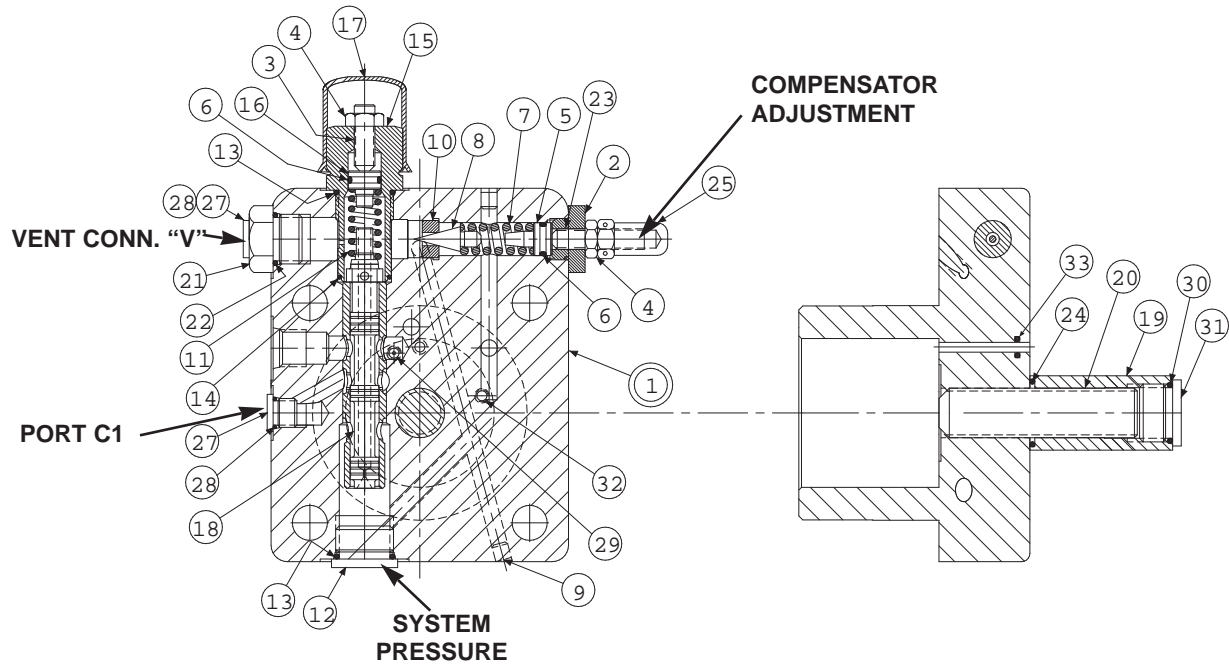
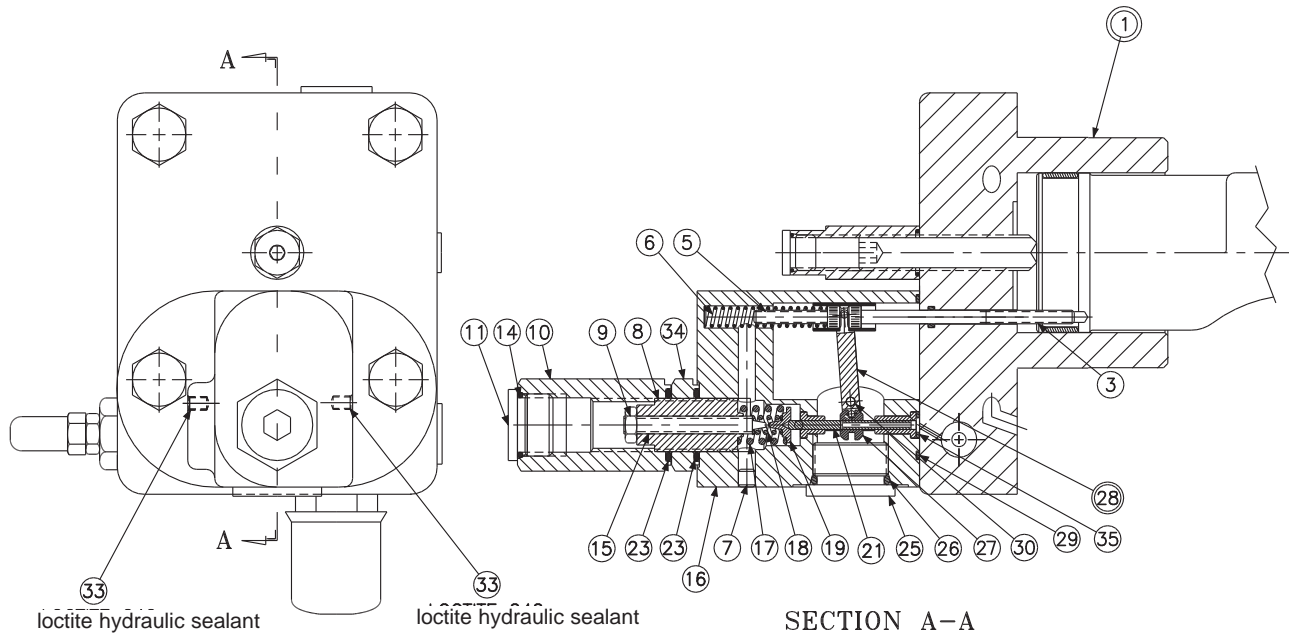

FIGURE 28
FIGURE 29
PARTS LIST FOR FIGURE 28
PARTS LIST FOR FIGURE 29
1. See figure 29. Remove 2 screws holding torque limiter body (16) to cap assembly (1).
2. Remove all parts from torque limiter body (16) except pin (30) and arm assembly (28). It is not necessary to remove these parts unless broken or worn. Examine parts for wear or damage.
3. Remove screw (3). Examine head for excessive wear, and body for smooth sealing surface with O-ring.
4. See figure 28. Remove maximum volume stop assembly (items 19, 20, 24, 30, 31).
5. Remove cap assembly (1).
6. Remove plug (15) and attached parts. Remove spring (11) and spool (18).
7. Remove adjusting plug (2) and attached parts. Remove seal piston (5). Note: a 10-24 screw may be attached to assist in pulling the piston. Remove spring (7) and cone (8).
8. Do not remove sleeve in body (1). Sleeve is pressed into cap and finished to size. If sleeve, snout or cap is worn, replace the cap-sleeve assembly (1).
9. Examine seat (10) for wear. Do not remove unless damaged.
1. See figure 28. Install Avseal plugs (9) orifice (29) and screw (32).
2. Press seat (10) into bore squarely against shoulder in bore.
3. Install spool (18) into bore as shown. Install spring (11) over end of spool. Install O-ring (6) on seal piston (16). Lubricate and install into plug (15). Install O-rings (13) and (14) on plug (15) Install plug (15) into cap. Install screw (3), nut (4) and acorn nut (17).
4. Install O-ring (6) on seal piston (5).
5. Lubricate O-ring and install cone (8), spring (7) and seal piston into bore in cap (1), being careful that cone enters seat (10). Install adj. plug (2), screw (25), nut (4), and acorn nut (25).
6. Install plugs (12), (21) and (27) and torque.
7. Carefully install O-ring (33) into the cap.
9. Install maximum stop screw (20), cover (19), O-ring (24) and plug (31) with O-ring (30).
10. See figure 29. Apply Loctite 242 on threads of screw (3), lubricate the shank, thread through the cap into the control piston, and torque to 5 lb.*ft., 6,78 Nm.
12. Press dowel (30) into body (16), through the link assembly (28), to 1/4", 6,35 mm below surface. Apply Loctite hydraulic sealant® to threads of screws (33) and install over dowel (30).
13. While sleeve (27) is engaged into dowel on link (28), slide spool (21) into bore of body (16), and through sleeve (27). Spool (21) must move freely and easily at all positions of the link (28).
14. Assemble remaining parts per drawing. Torque plug (11).
15. While spring retainer is engaging screw (5) under dowel of link (28), slide the other opening of spring retainer over the top of the screw (3). Attach body assembly (16) to cap (1) and torque assembly screws to 75 lb.*ft., 102 Nm.